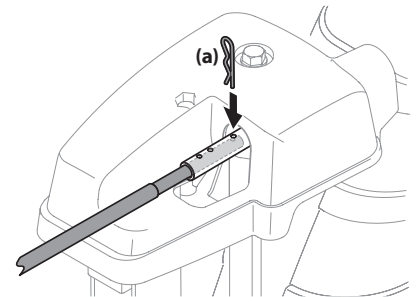

Figure 3-11
Follow this procedure to manually change the chute direction on units equipped with an electric chute directional control joystick and manual chute directional control rod only. See Figure 3-11.
1. Remove cotter pin (a) from either of the holes furthest from the chute assembly on chute rotation assembly. See Figure 3-11.
2. Push in chute control rod until the hole in it lines up with the third hole in chute rotation assembly. See Figure 3-11.
3. Reinsert cotter pin (a) through this hole and chute control rod as shown in Figure 3-11.